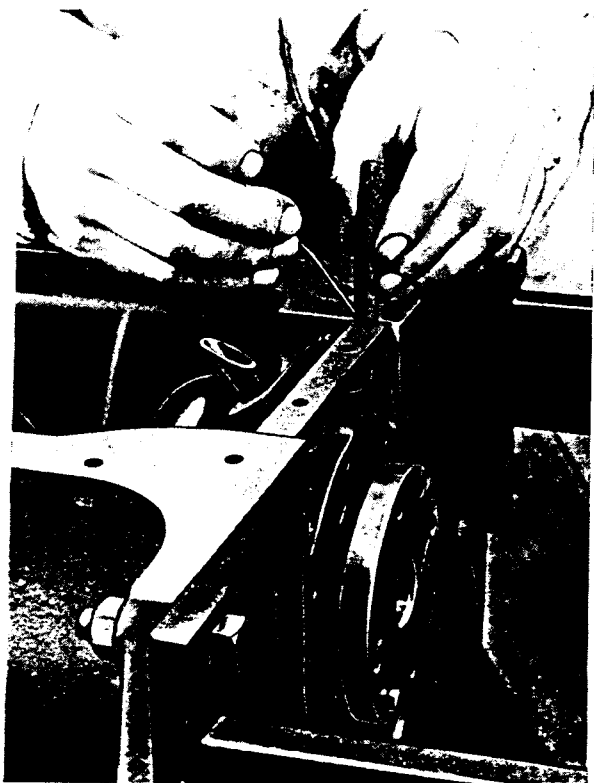

FIG. 47
9. Soak rear bearing cap felt seals in shellac and insert in their grooves, using a suitable rod as shown in Fig. 47. Press down tight, using extra felt if necessary to ensure that groove is completely filled.